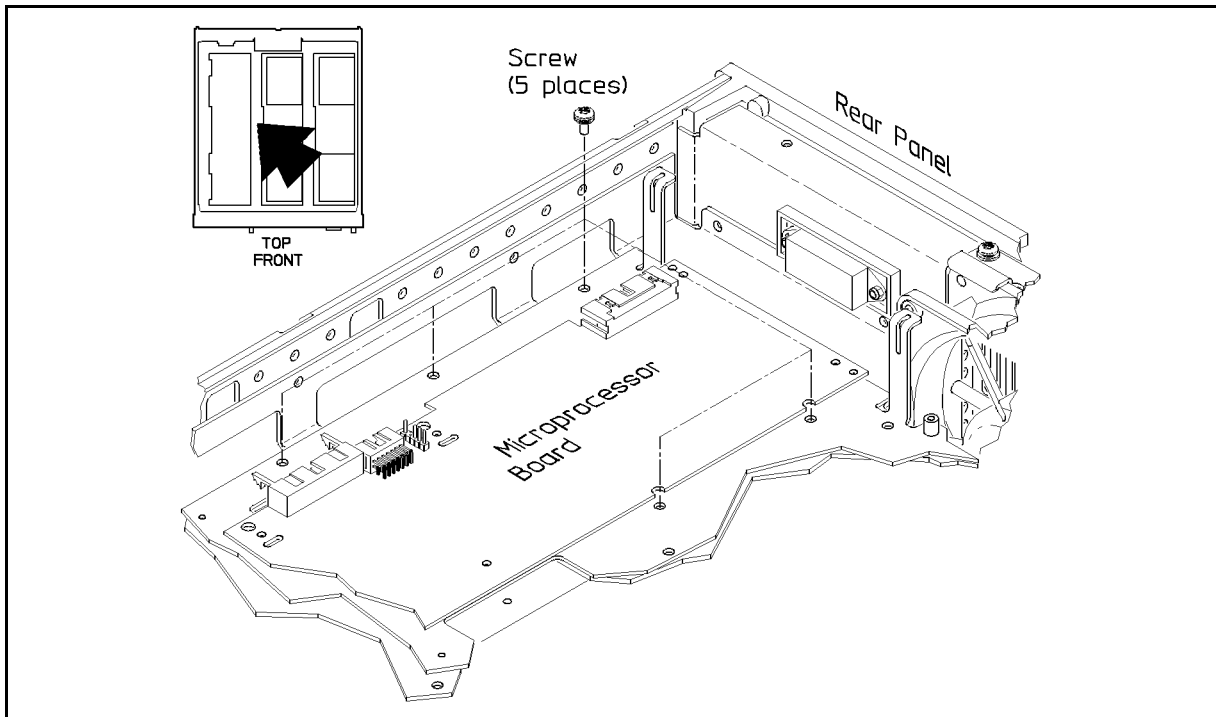

Figure 5-9. Power Supply Screws
1. Using a size 10 TORX[®] screwdriver, remove the five screws connecting the power supply to the frame (as marked on the frame). It may be necessary to remove the microprocessor board to access the screws. See Figure 5-9.